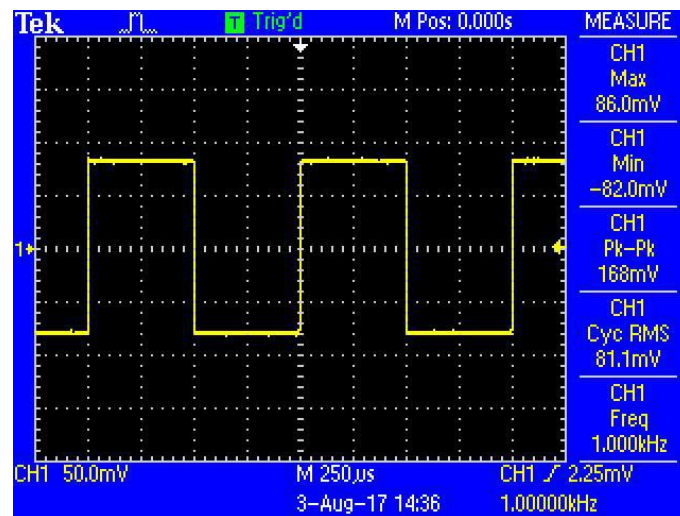

Fig.97 Measured Signal Parameter
3. Turn on the function signal generator and set “Function: Square”, “Amplitude: 80mVrms”, “Frequency: 1 kHz”, as is shown in Fig.97.